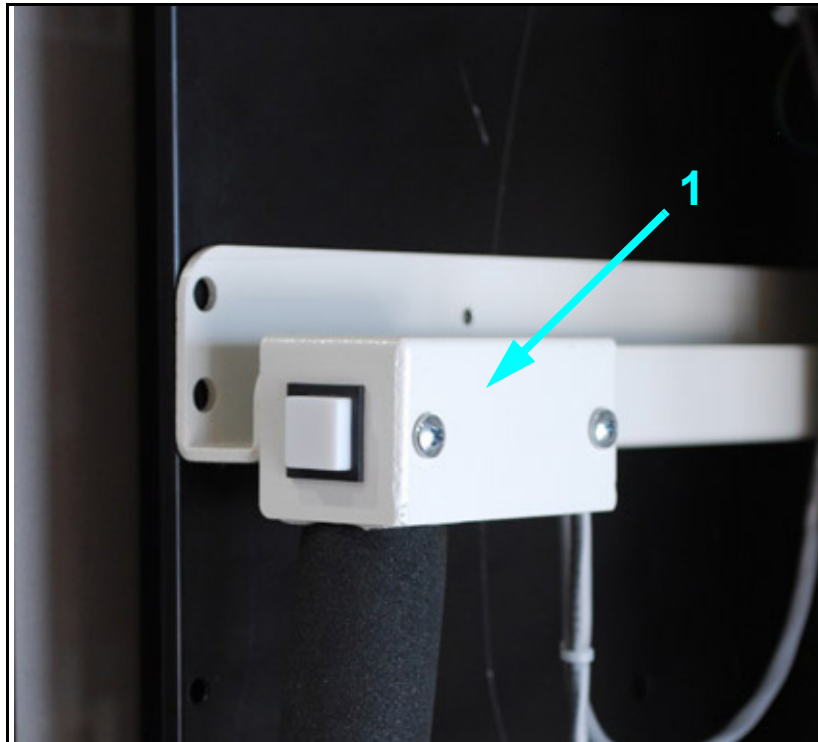

Figure 5-21. Switch Cover
- 20** Attach the switch cover (1 in Figure 5-21) to the handle.
- 21** Slide the cassette tray (1 in Figure 5-21) back into the bucky.